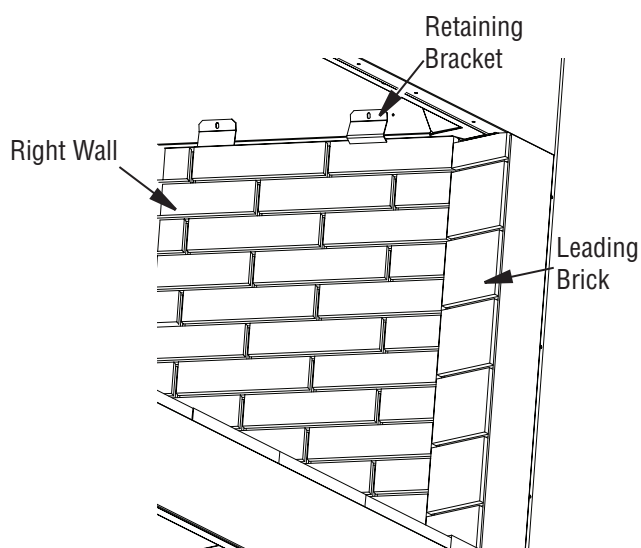

Figure 33 - Installing Side Walls
3. Secure the firebrick wall using 2 of the retainers provided. The bracket will slip underneath the metal lip on the top of the wall and screw into the inner dome of the fireplace (Figure 33).